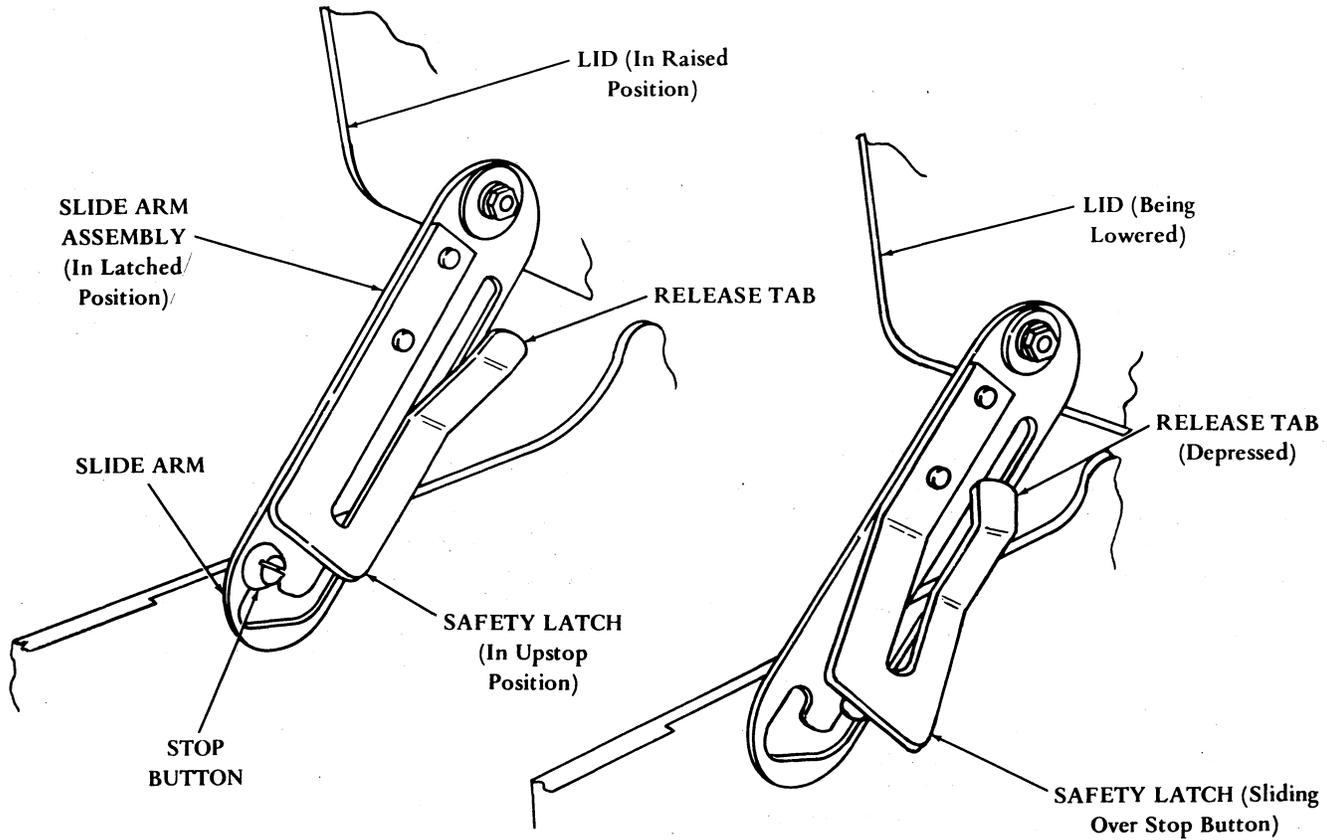

Figure 3 - Slide Arm Assembly
2.02 The slide arm assembly (Figure 3), consists of a safety latch, release tab, slide arm, and stop button (mounted on the lower enclosure). The assembly is mounted between the lid and the lower enclosure on the left inside surface of the cover.